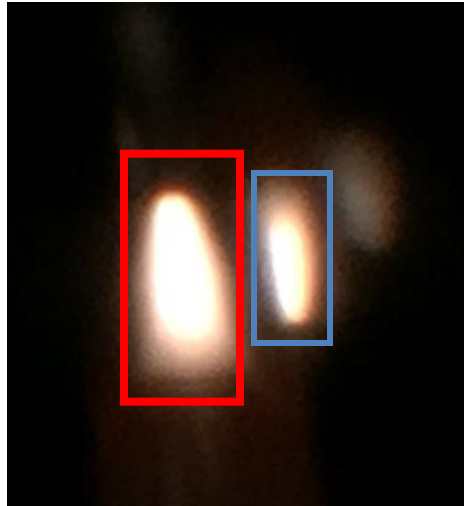

Figure 46: Xe arc lamp primary image (red) and secondary reflected image (blue).
7. Move the lever so that it rotates about the cylindrical condenser lens assembly until the arc between the anode and cathode becomes visible. This is usually achieved when the adjustment lever is as farthest from the lamp housing as possible. A smaller, secondary image may also be visible on the backdrop. This is the reflection of the arc from the rear reflector inside the housing as seen in Figure 46.
11. A reflector is located behind the lamp inside the lamp housing. The position of the reflector is adjusted using the knobs located on the side of the lamp housing, as shown in Figure 38. The lamp's reflected image is referred to as the "secondary image". Figure 46 shows the lamp arc's primary image in the red box and the secondary image in the blue box. Using the reflector adjustment knobs,